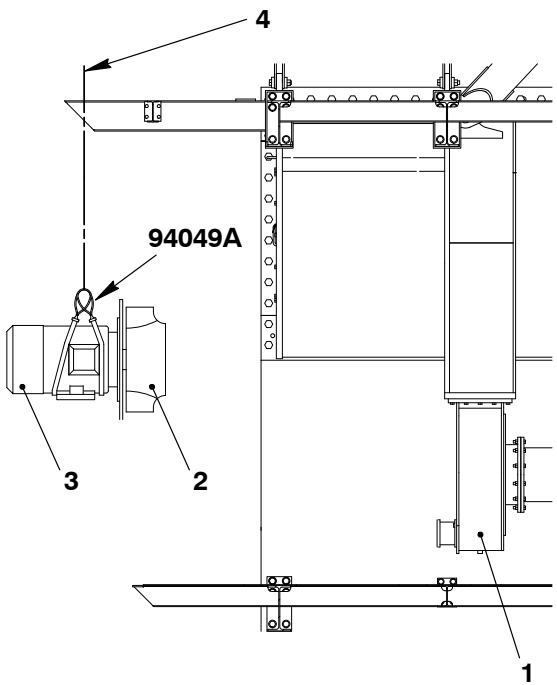

Fig. 3
- 7) Operate carefully the two manual ratchets (H1, H2) to remove the electric motor (3, Fig. 3) from the casing (1).
- 8) Operate the two manual ratchets (H1, H2) to move the electric motor until you can attach the engine room crane (4).
- 9) Attach the engine room crane (4) to the two slings (94049A).
- 10) Operate the engine room crane (4) to put a light tension on the two slings (94049A).
- 12) Operate the engine room crane (4) and the manual ratchet (H2) until the electric motor (3) hangs vertically.
- 14) Operate carefully the engine room crane (4) to move the electric motor to an applicable area.